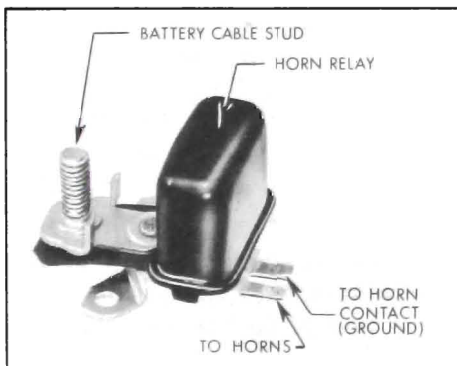

Figure 10-68—Horn Relay and Junction Block Assembly
3. If horns still do not blow when wire at mast jacket is grounded, unplug double connector from horn relay part of junction block assembly which is mounted on right wheelhouse. See Figure 10-68. Then plug a known good relay and junction block assembly onto the connector and press battery terminal of new assembly against old junction block battery terminal stud for a source of current. Have helper try blowing horns. If horns blow, original relay is defective and must be replaced.